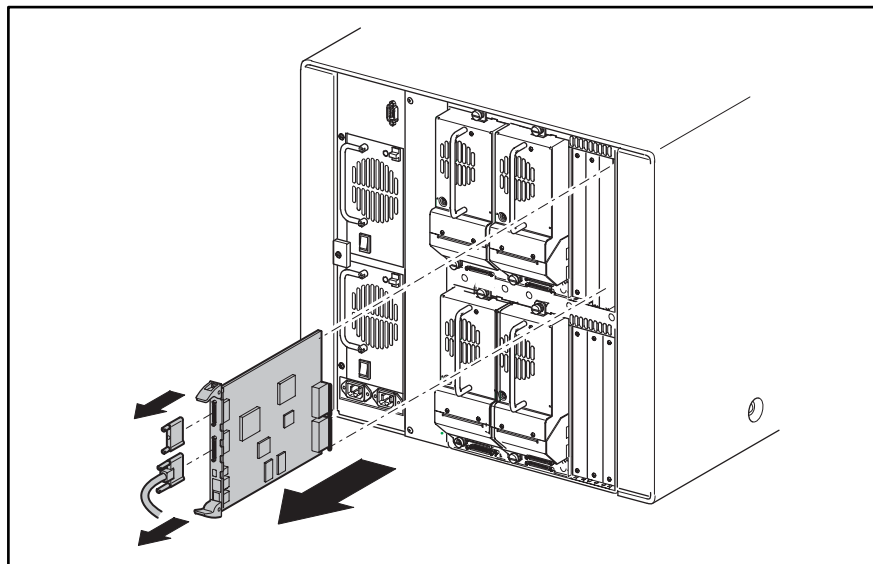

Figure 3–20: Library controller board removal
4. Completely loosen the two captive hold-down screws on the ejector handles (see Figure 3–20).
5. Disconnect the library controller board by spreading the ejector handles (see Figure 3–20).
1. Position the library controller board with the SCSI connectors toward the top and then align the edges of the board with the slots in the card cage (see Figure 3–20).